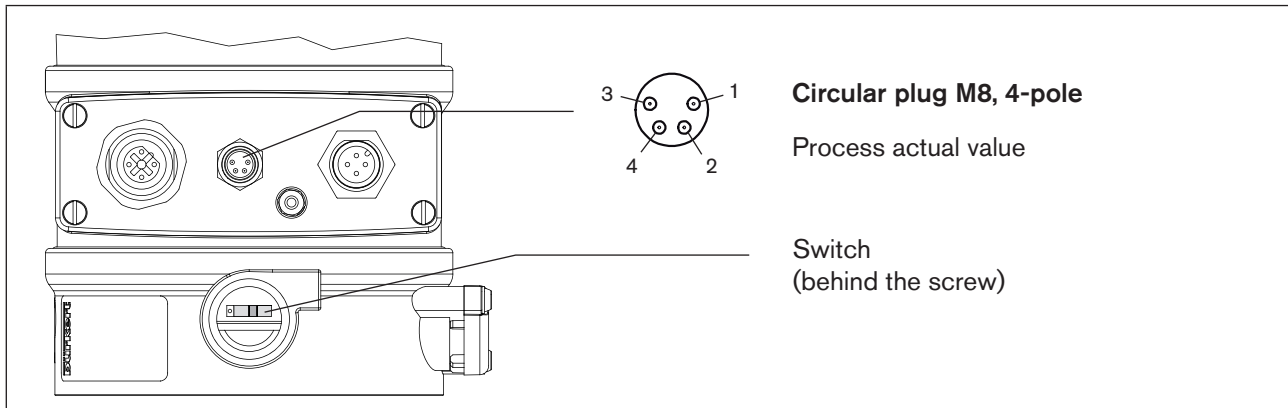

Figure 111: Connection - PROFIBUS-DP - Type 8693 - process actual value
66) The switch is situated behind the screw (see “Figure 111:”)